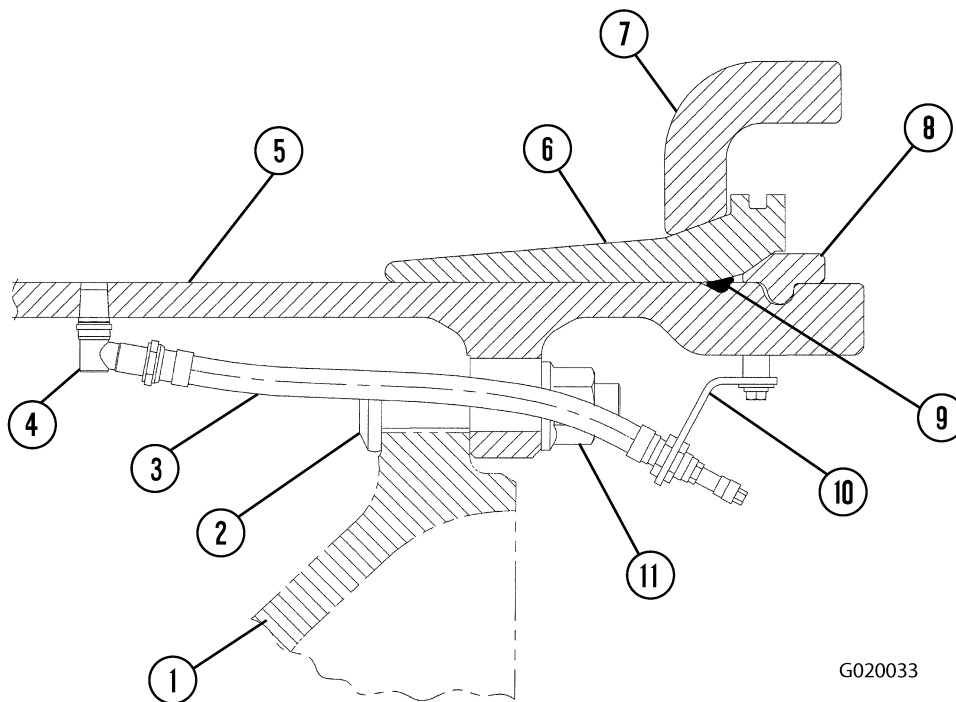

FIGURE 2-7. FRONT WHEEL HUB AND RIM ASSEMBLY
2. Attach a hydraulic bead breaker to the rim by slipping the jaws of the frame assembly over the outer edge of flange (7, Figure 2-7). Make sure that the jaws of the frame are as near to bead seat band (6) as possible.
5. After the bead is broken loose, insert the flat of a tire tool in the beading notch on lockring (8). Pry the lockring up and out of the groove on the rim.
6. Pry in on bead seat band (6) until O-ring (9) is exposed. Remove the O-ring.
7. Remove bead seat band (6) from rim (5) and remove flange (7).
NOTE: Do not allow paint, rust or other contamination to cover the mating faces of lock ring (8, Figure 2-7) and rim (5).
5. Install outer flange (7, Figure 2-7) in position and install bead seat band (6). Push in on the bead seat band to expose the O-ring groove in the rim.
6. Lubricate new O-ring (9) with soap solution and install it in the groove of the rim.
7. Install lockring (8) and tap it into place with a lead hammer. The lockring lug must fit into the slot of the rim.